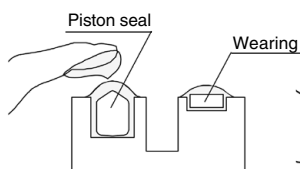
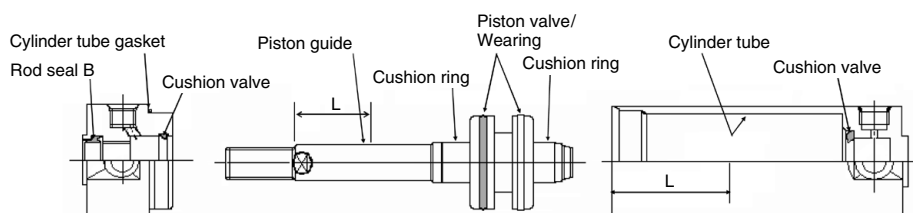

Fig. 7 Piston seal
Fig. 9 Grease application points $L = \frac{\text{STROKE}}{2}$ or 100 mm and more
- ③⑤ Piston seal: Rub grease into the seal groove and outer circumference of the seal. (Fig. 7)
- ④② Cylinder tube gasket: Lightly apply grease.
- Cylinder component parts: Apply grease to each component parts of the cylinder in Figure 9.